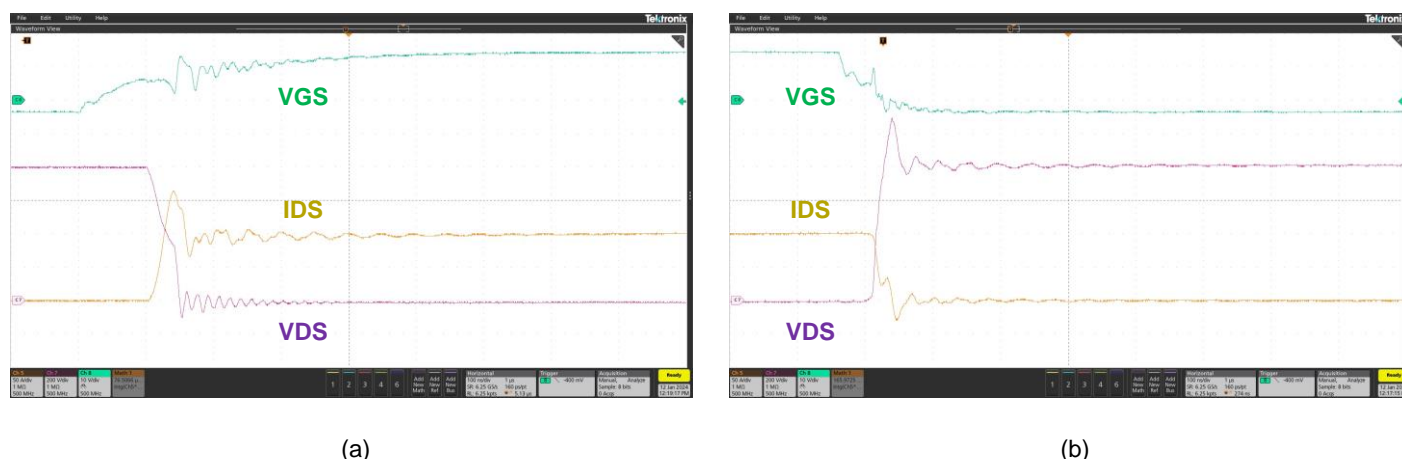

Figure 8. Half-bridge E1B module DPT EVB switching waveforms at 800 V, 100 A (UHB100SC12E1BC3N). (a) turn-on and (b) turn-off.
**Figure 8** shows switching waveforms of Qorvo SiC E1B module (UHB100SC12E1BC3N) at conditions shown in **Table 1**. VGS is 10 V/div, IDS is 50 A/div, VDS is 200 V/div.